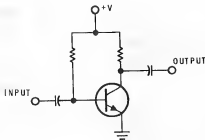

Figure 3-87
11. The transistor amplifier shown in Figure 3-87 is a/an: